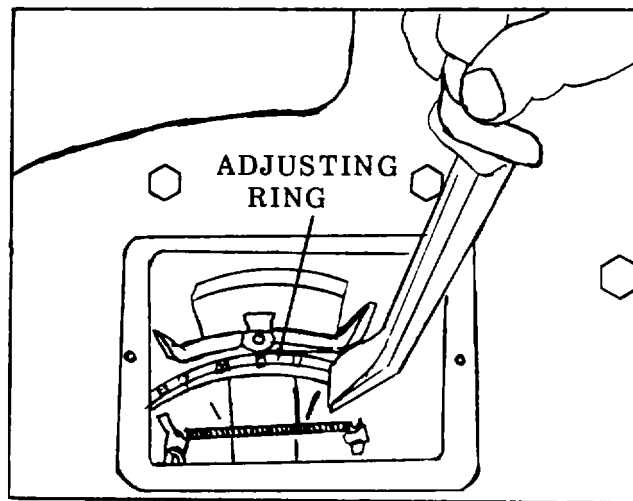

**Figure 3-100. Inspection Hole Cover Removal.**
- a. Inspection Hole Cover Removal. (Refer to figure 3-100).
(1) Remove two screws (1) and inspection hole cover (2) to expose clutch adjusting rings.
(3) After the clutch is properly adjusted, reinstall the end of the clutch adjusting ring lock in one of the splined grooves in the hub of the outer clutch pressure plate.
(4) Install inspection hole cover (figure 3-100).